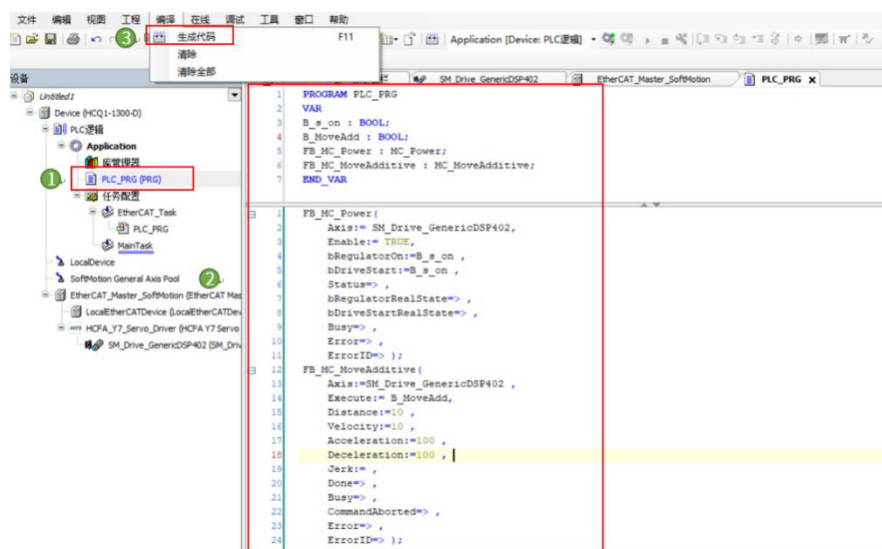

Figure 13-16 Test code
10. Double-click to open [PLC_PRG], edit the test code as shown in the figure, and click [Compile- Code Generation], as shown in Figure 13-16.